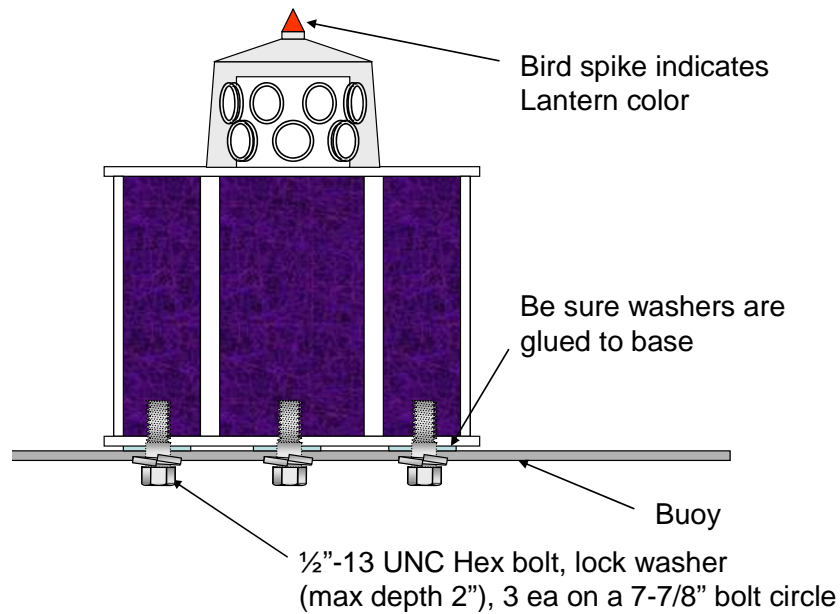

Figure 3-10
- c. On steel buoys, loosely install one 1/2" stainless steel threaded rod or bolt with the head removed to act as a locating pin for the lantern mount on top of the radar reflector. Install the lantern in one of those holes and swing the base until the other two holes are lined up. Insert two 1/2" stainless steel bolts with lock washers to secure the lantern. Remove the treaded rod and insert a 1/2" bolt, or install a lock washer and nut on the rod. Tighten all fasteners. See Figure 3-10.